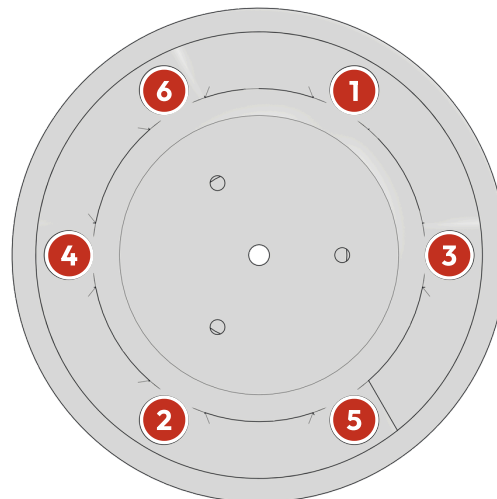

Fig. 13 The cap from behind: tighten in this order, a little at a time.
- 13 Snug it in the star order.** Turn each screw a little at a time, 1 to 6 as in Fig. 13, two rounds, still holding the stack centred. Stop at snug: the gaskets squeeze evenly and do not bulge.